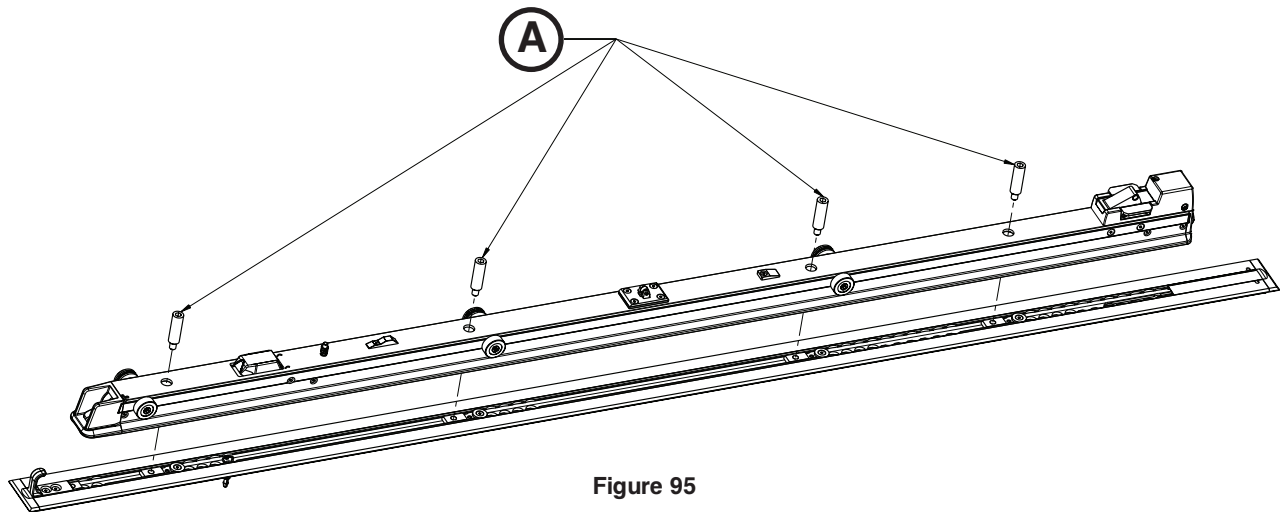

Figure 95
3. Using a 3/8" Allen driver, remove the four anchor mounting posts (A) that secure the anchor to the floor plate (Figure 95).